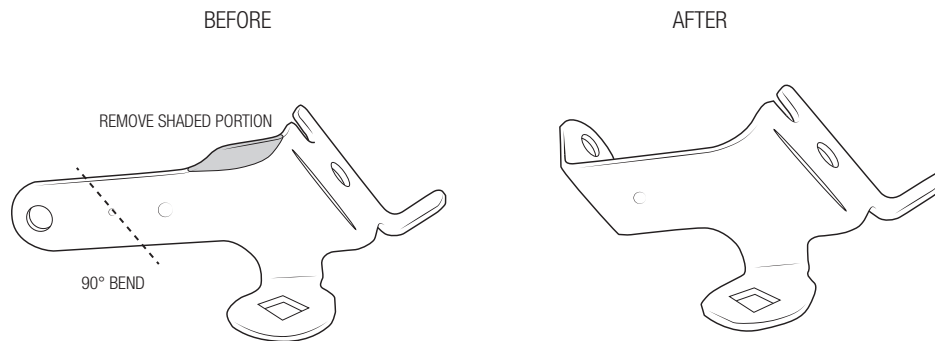

Figure 38
14. Remove horn and horn bracket located on inner fender next to the brake booster. Modify the bracket as shown in Figure 38 to relocate horn.